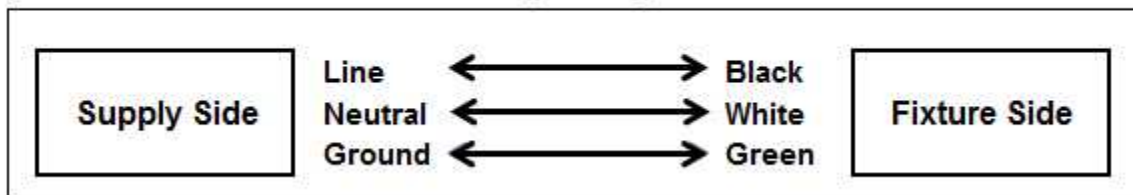

Figure 4
8. Connect power supply wires as shown in wiring diagram. (See Figure 4 below).